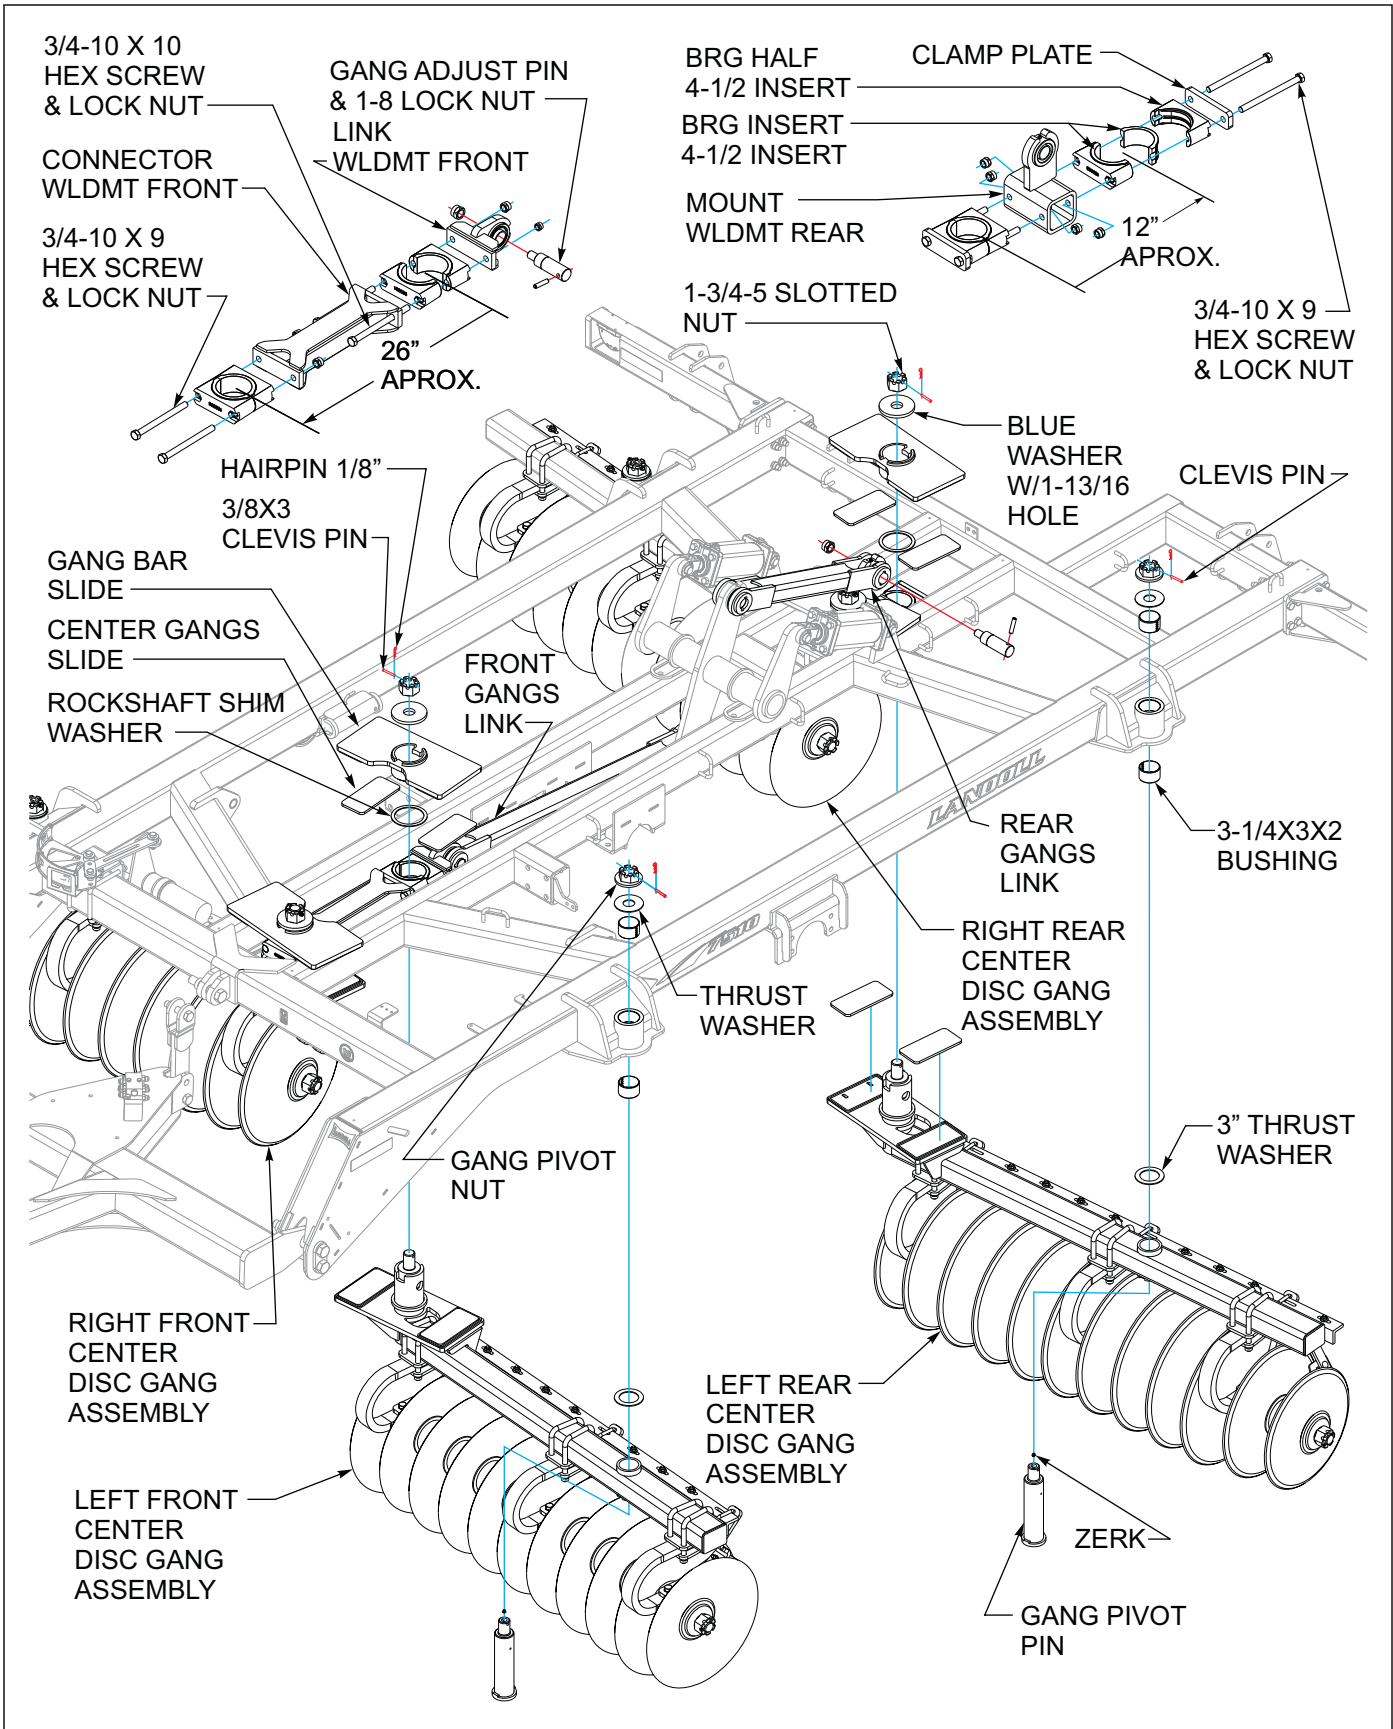

Figure 3-9: Center Disc Gang Installation
1. Install the left front disc gang assembly by moving disc gang assembly to proper frame position (**See Figures 3-9.**) Install gang pivot pin through gang pivot tube of gangbar, there are notches that will need to be aligned so the pin will not rotate in the gang bar. Install the 3" stainless steel thrust washer over the gang pivot pin, and pin will go on through the gang pivot mount welded to the outside of the center frame inside the hinges. Install the 1-13/16 diameter thrust stainless steel washer to the threaded end of the gang pivot pin along with the gang pivot nut. If the top bushing in the center frame pivot comes out a little while the pin is going through, just put the gang pivot nut on and hand tighten down to press it back into place. While gang pivot nut is still loose place both of the center frame slide pads onto the top side of the gang bar inside of the holder at the center of the machine. Next loosely install the gangbar slide and the center frame slide pads along with the blue washer with a 1-13/16" diameter hole and 1-3/4" slotted nut in the middle of the center frame to keep the end of the gang from falling.
4. The front gangs have a distance of 26" from center to center of the gangbar pivot shafts sticking up, move gangs to where this is close and the gangs are close to the front of the machine as shown in (**See Figures 3-9.**) Assemble the front bearing halves and insert the 3/4-10 x 9" bolts through the front connector. Assemble the rear bearing halves and insert the 3/4-10 x 10" bolts through the connector and into front link weldment that is already on the frame assembly. Tighten these four bolts alternating sides to tighten the cast bearings up evenly. With both bearings tight install a thrust stainless steel washer on top of the bearing inserts and reinstall the gang bar slides, center frame slide pads, blue washers with 1-13/16" diameter hole and slotted nuts.